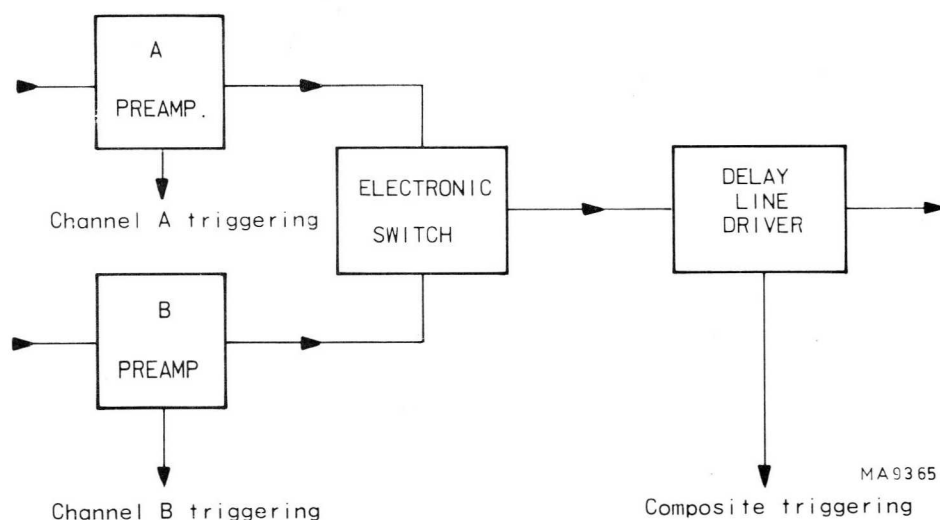

Fig. 2.5. Block diagram of composite trigger circuit
*Note: When composite triggering is employed in dual channel operation (chopped or alternate), and there is only one signal applied (to A or B input), stable triggering cannot be obtained. This is only normal since the trigger source is also switched from A to B (see Fig. 2.5).*